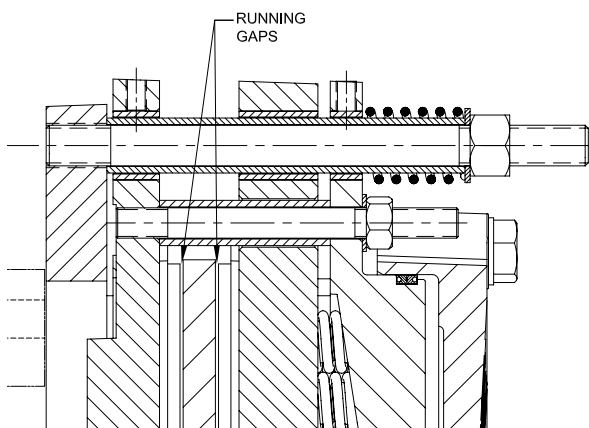

Figure 7
- 2.2.16 Thrust the motor shaft to its mechanical limit away from the motor frame. Measure the gap between the disc (4) and the friction lining mounted on the pressure plate (5). Thrust the motor shaft to its mechanical limit towards the motor frame and measure the gap between the disc (4) and the friction lining mounted on the floating plate (3). Verify that the measured gaps are within 0.020" (0.51 mm) of each other. Running gaps are shown in Figure 7.
- 2.2.17 If the running gaps are not within 0.020" (0.51 mm) of each other, loosen all the mounting screws. One at a time, remove each mounting screw and add or remove an equal thickness of shim at each lug to obtain running gaps that are within 0.020" (0.51 mm) when the motor shaft is thrust to its mechanical limits. Running gaps are shown in Figure 7. Tighten the mounting screws to specification. See Table 3. Repeat step 2.2.16 to verify that the gaps are correct.